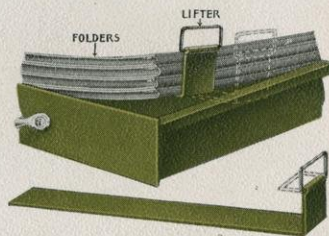

Fig. 4 Showing Folder Lifter No. 1958 as used in steel drawer
**HAMILTON FOLDER LIFTER NO. 1958:** This little device enables the operator to lift the right front corner of the entire contents of the drawer. (See fig. 4). The lifter is then pulled to the right and rests on the drawer side, after which it is an easy matter to select the folder desired. Before closing drawer, the lifter is pushed to the left and down into the drawer with the swivel handle folded so as not to interfere with closing the drawer. This device is furnished at a slight extra cost. It is made of steel in olive green baked enamel finish.